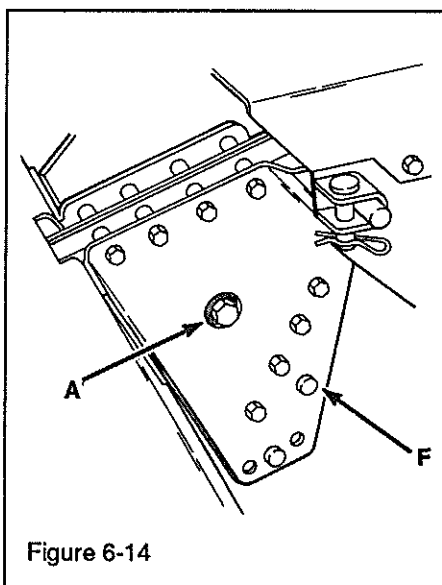

Figure 6-14
- Drain oil from drain plug (A, Figure 6-14).